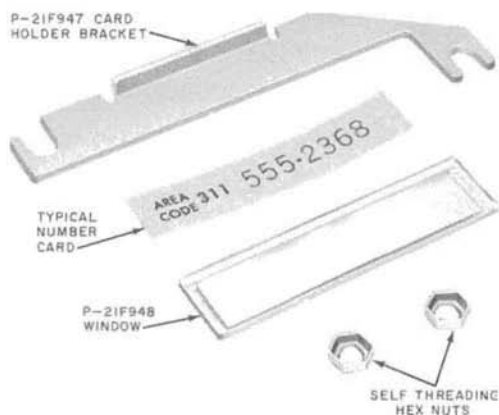
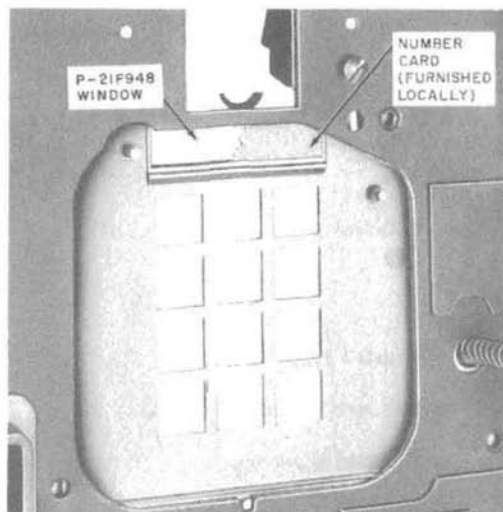

Fig. 14—Number Card and Associated Hardware (TOUCH-TONE)
Fig. 15—Window and Number Card Installed in Faceplate (TOUCH-TONE)
- (b) A P-21F947 card holder bracket, P-21F948 window, and two hex nuts (Fig. 14) are packaged separately and shipped in the cash compartment.
- (1) Remove dial housing.
- (2) Insert P-21F948 window in faceplate from rear (Fig. 15).
- (3) Insert number card in window (Fig. 15).